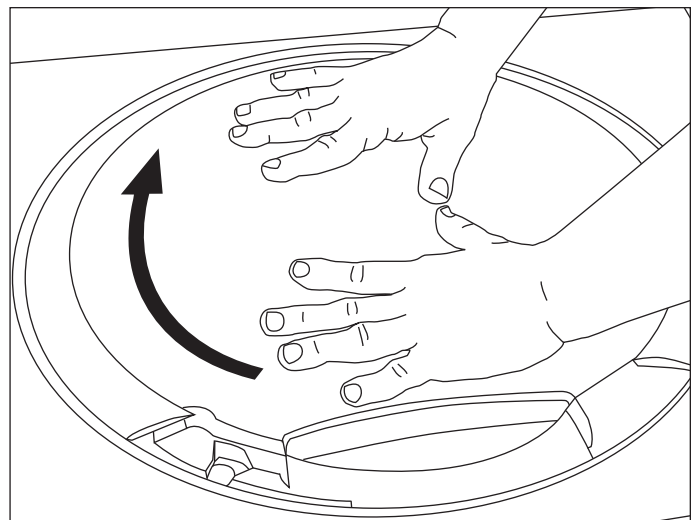

Figure 2-40.
6. Lay the door on a flat surface and support the edges of the door to keep it from turning. Apply moderate downward pressure on the lens with both hands and rotate it 180°. Align the handle holes in the lens with the handle holes in the transition ring. (See Figure 2-40)